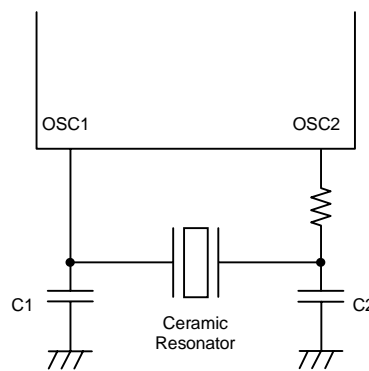

Figure 3 Ceramic Resonator Circuit
- (1) When oscillated internally under the oscillating conditions in Fig.3, generated voltage can be over the maximum limit of the VDD.
- (2) Average for 100 ms period.
- (3) Operating supply voltage VDD must be held until the microcontroller enters in the standby mode after the execution of the HALT instruction. Any chattering should not be generated at the PA3 pin during the HALT instruction execution cycle.
- (4) Recommended circuit constants that are verified by the oscillator manufacturer, using oscillator characteristic evaluation board selected by SANYO.
- (5) The OSC1 pin will have schmitt characteristics when external clock oscillator or the two-pin RC oscillator is selected as an oscillation option.
- (6) These are the results of testing using the value at each part on the Fig.3 circuit which is recommended by SANYO. These results do not include the current applied to the output transistor, nor the current applied to the transistor with a pull-up resistor on the LSI.
- (7) fCFOSC is the frequency when the values in table 1 are used.
- (8) This indicates the elapsed time that is required before the oscillation becomes stable after the VDD exceeds the minimum limit of the operation supply voltage.
- (9) $TCYC=4 \times$ system clock period
- (10) When used in an environment that may result in condensation, note that a current leakage between PE1 and adjacent pins or a current leakage at external integration circuit using R and C could occur.